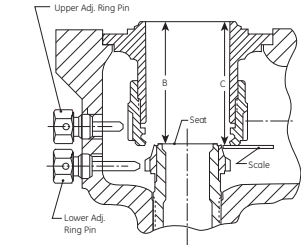
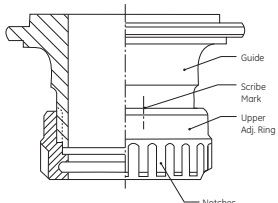

Figure 29: Guide - Bushing Seat Assembly
Figure 30: Upper Adj. Ring - Guide Assembly
- Dimension C (See Figure 29) recorded in Step 12 of Section XII.B, "Disassembly". Observe the marks made on the ring and guide and adjust the ring to align the marks (see Figure 30). Recheck the overall length of the adjusting ring and guide assembly to assure that the upper ring is in its original position.